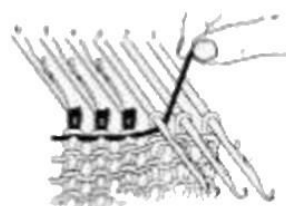

Fig.62
- Pass the yarn under the end needle in position (E) nearest the needles in position (B). (Fig.62)